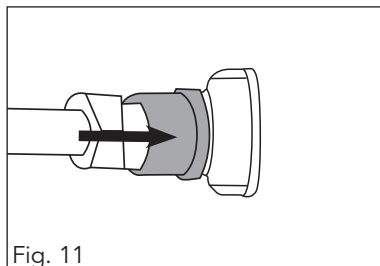

Fig. 11
2. Insert spray nozzle (3) and release quick connector (fig. 11).